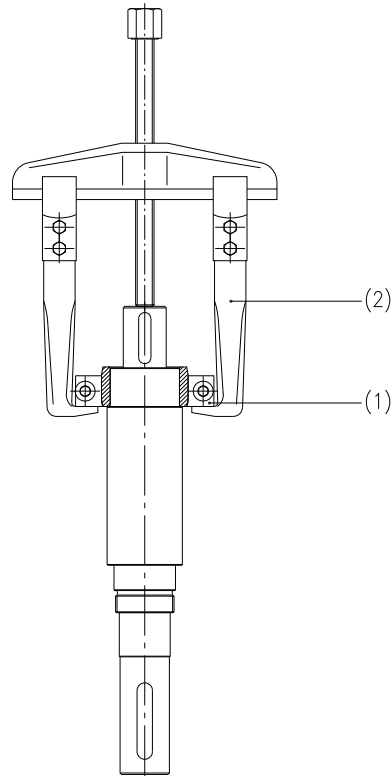

Fig. 15: Disassembly inner ring cylinder roller bearing
6. Remove key 940.1.
10. Fit the pull-off device (1) – see chapter 7.4.3 – to the inner ring of cylinder roller bearing and tighten it (Figure 15).
11. Place the puller (2) and pull off the inner ring of cylinder roller bearing.
12. Reinsert key 940.1 and press it in by Knipex-plier wrench.
15. Remove key 940.1.